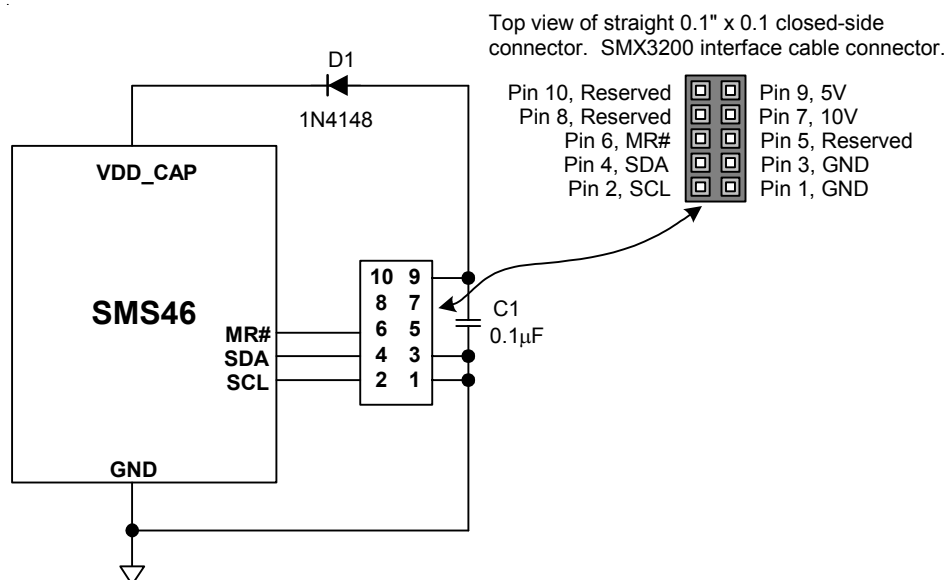

Figure 6 - SMX3200 Programmer I²C serial bus connections to program the SMS46.
The Windows GUI software will generate the data and send it in I²C serial bus format so that it can be directly downloaded to the SMS46 via the programming Dongle and cable. An example of the connection interface is shown in Figure 6.
2. Connector J1 is an SMX3200 (see Figure 6).